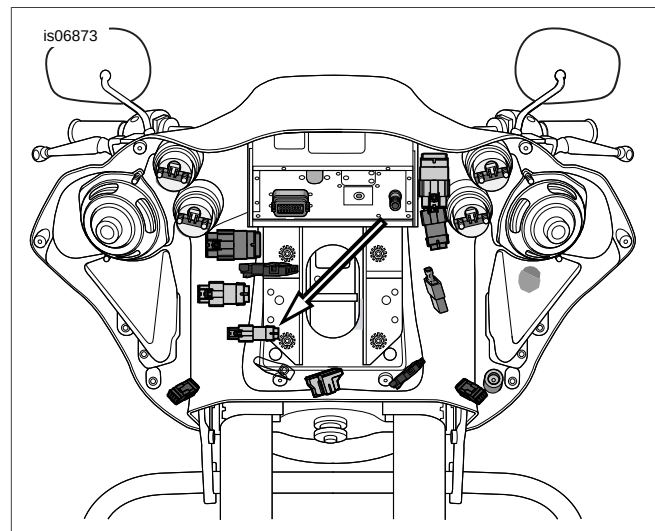

Figure 6. Twist Grip Sensor Jumper Harness Connector (FLTR models)
- See Figure 6. Connect TGS connector half from right handgrip to harness connector half.